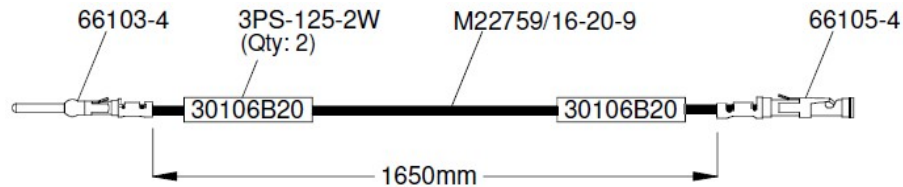

Figure 24: Preparation of Fuselage Lead Wire
12.2.1.2 Prepare the lead wire according to Figure 24.